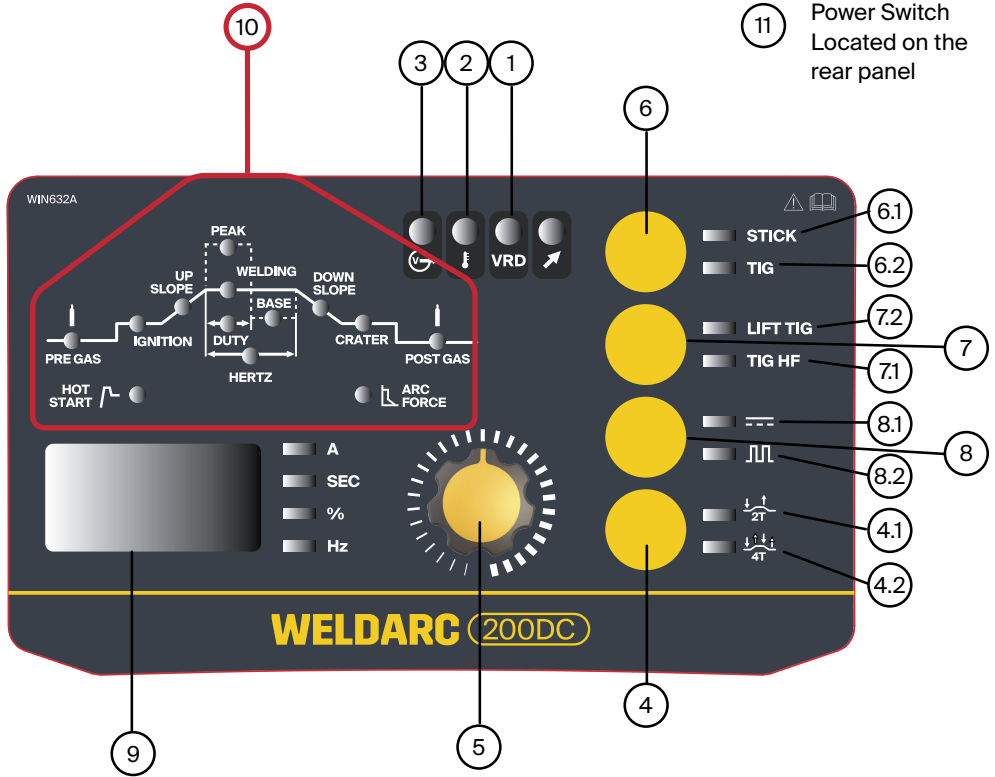

Fig 1 Weldarc 200 DC Controls
Adjust to the desired maximum current (such as 150A) on the machine with the control knob FIG 1 (5). The AMPs digital display will then show 150A.